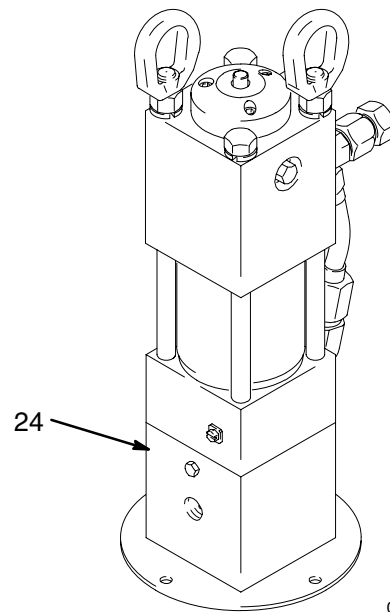

Fig. 2
Drain Line: remove the plug (24) from the pump adapter, and install a 1/8 in. diameter weep tube, ending in a waste container. Monitor the weepage of hydraulic fluid. If it seems excessive or increases suddenly, the reciprocator or pump throat seals may need to be changed. See Fig. 2.